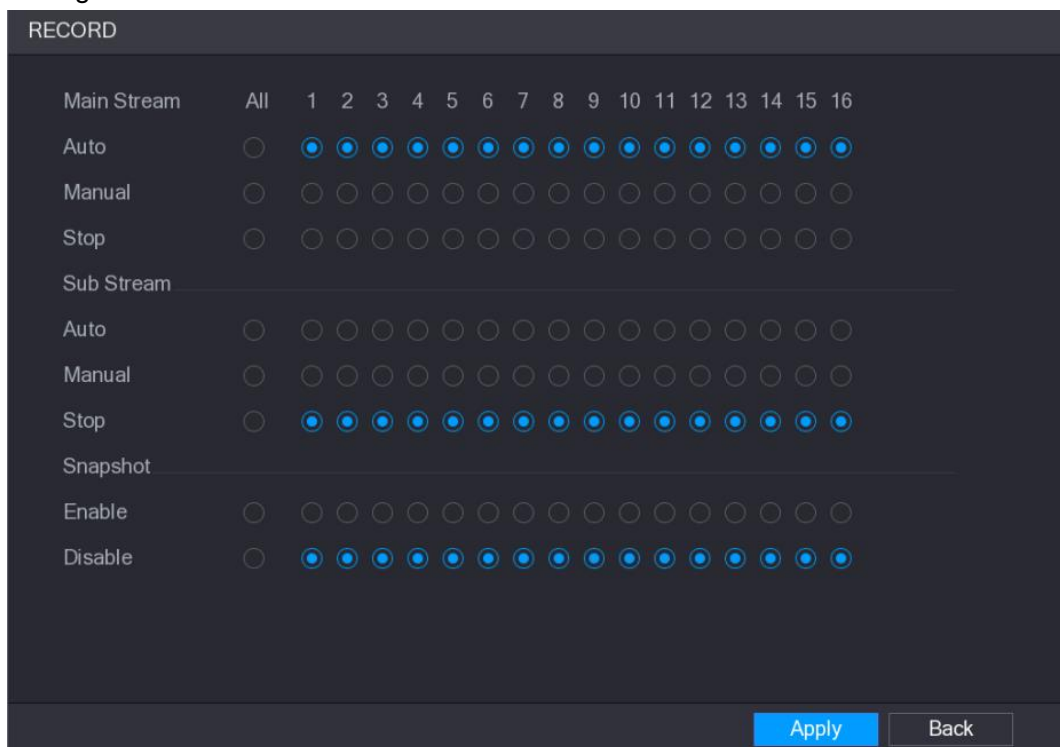

Figure 5-96
**Step 1** Right-click on the live view screen, the shortcut menu is displayed. On the shortcut menu, select **Manual > Record Control**. The **RECORD** interface is displayed, see Figure 5-96.